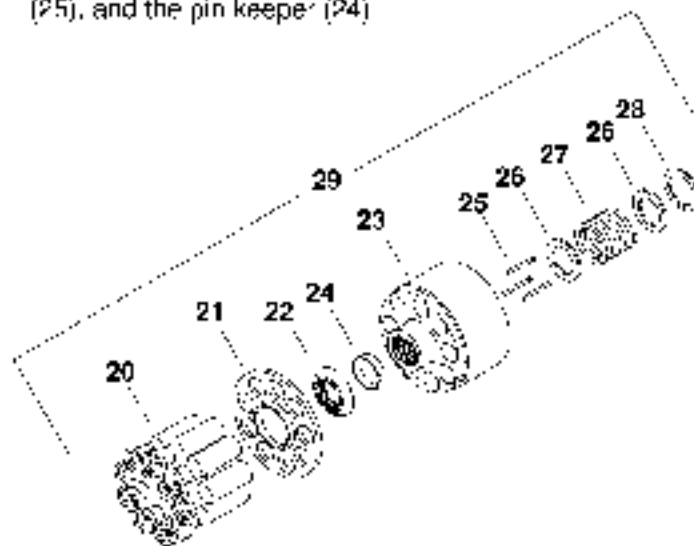

Figure 1
- 1 Clamp the end of the drive shaft in a protected jaw vise with the body of the pump up and remove the four cap screws (34) from the pump assembly.
- 2 Use a plastic mallet and tap the adapter assembly (52) to loosen it, then pull the adapter straight up until it is free.
- 3 Remove retainer (60), spring (59), and wiper (58) from adapter assembly.
- 4 Remove the two check valve assemblies (53) from backplate (33). Pin (57) is a loose fit. Caution must be taken when removing check valve assembly so that pin (57) and ball (58) are not lost.
- 5 Remove outer rotor (49), inner rotor (47), and key (48) from backplate (33). From front pump of tandem remove coupler (45) and lock ring (46).
- 6 Use screw driver slots in housing and pry up on backplate (33) or tap with plastic mallet to loosen, then pull the backplate straight up to remove. Remove gasket (31).
- 7 Remove tow valve assembly (39A) or plug (39) from backplate. Remove retaining ring (40) from spreader (43), and pull spreader from spreader plug (41).
- 8 Remove plug assembly (35), spring (37), and relief valve assembly (38).
- 9 Remove pump from vise and remove rotating assembly (29) from pump housing.
- 10 If pistons (20) did not come with piston block, you may remove them, solder (21), and spider pivot (22). See Figure 1.
- 11 The disassembly of the piston block assembly (23) is not required unless the pins (25) or spring (27) are possibly damaged. See Figure 1.